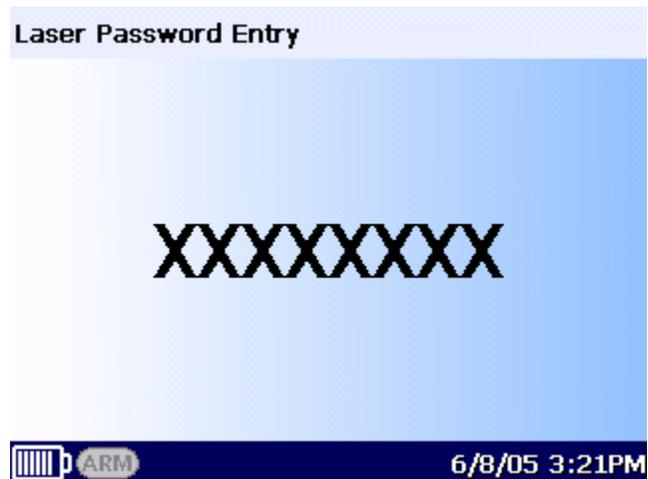

Figure 2-3: Laser Password Entry Screen
- c) Press the  button. The *Laser Password Entry* screen (Figure 2-3) will be presented.